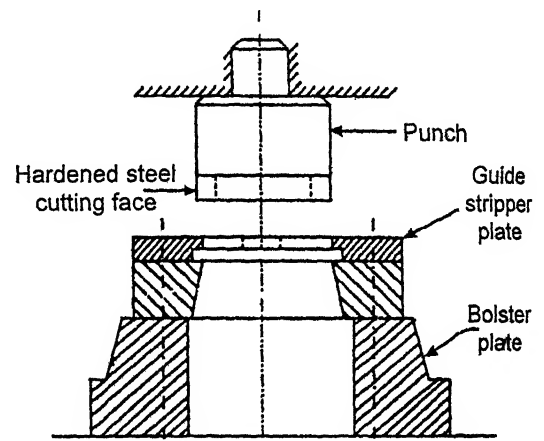

Fig. 9.23. Typical layout for a small set of blanking tools.
- Figure 9.23 shows a typical layout for a small set of blanking tools. The punch is of the built-up type having a low-carbon steel shank, which is fitted in the press ram and a hardened- steel cutting edge held by screws on to the face. The aim of having a built-up punch of this type is two fold. It gives a strong edge that will withstand the abrasive action for a considerable period without losing its size, and it permits a great economy in the use of expensive alloy steel. In this particular design the cutting edge is held in position by means of a spigot and hollow-head screws. To assist the clamping and make up the “*shunt height*” of the press, the bed is mounted on a bolster plate. It is located by means of strong dowels and clamped in position with hollow-head screws. For simplicity neither the dowels nor the screws are shown in the figure. *In order to guide the material a guide plate fitted with a stop is attached to the face of the blank bed. The guide plate also acts as a stripper and takes the scrap webbing off the punch.* It aids in getting a good blank, and a reasonable output per hour, as time is not wasted in having to pull the scrap clear by hand.